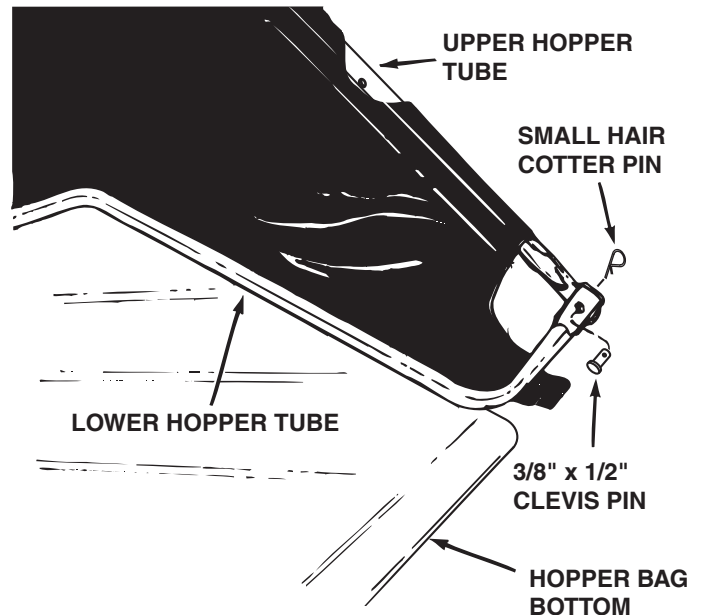

FIGURE 16
5. Place the assembled lower hopper tubes into the bottom of the hopper bag and then slide the tubes to the back of the bag. See figure 16.
6. Attach the ends of the lower hopper tubes to the **inside** of the upper hopper tubes using two $3/8" \times 1/2"$ clevis pins inserted from the inside, and two small hair cotter pins. See figure 16.